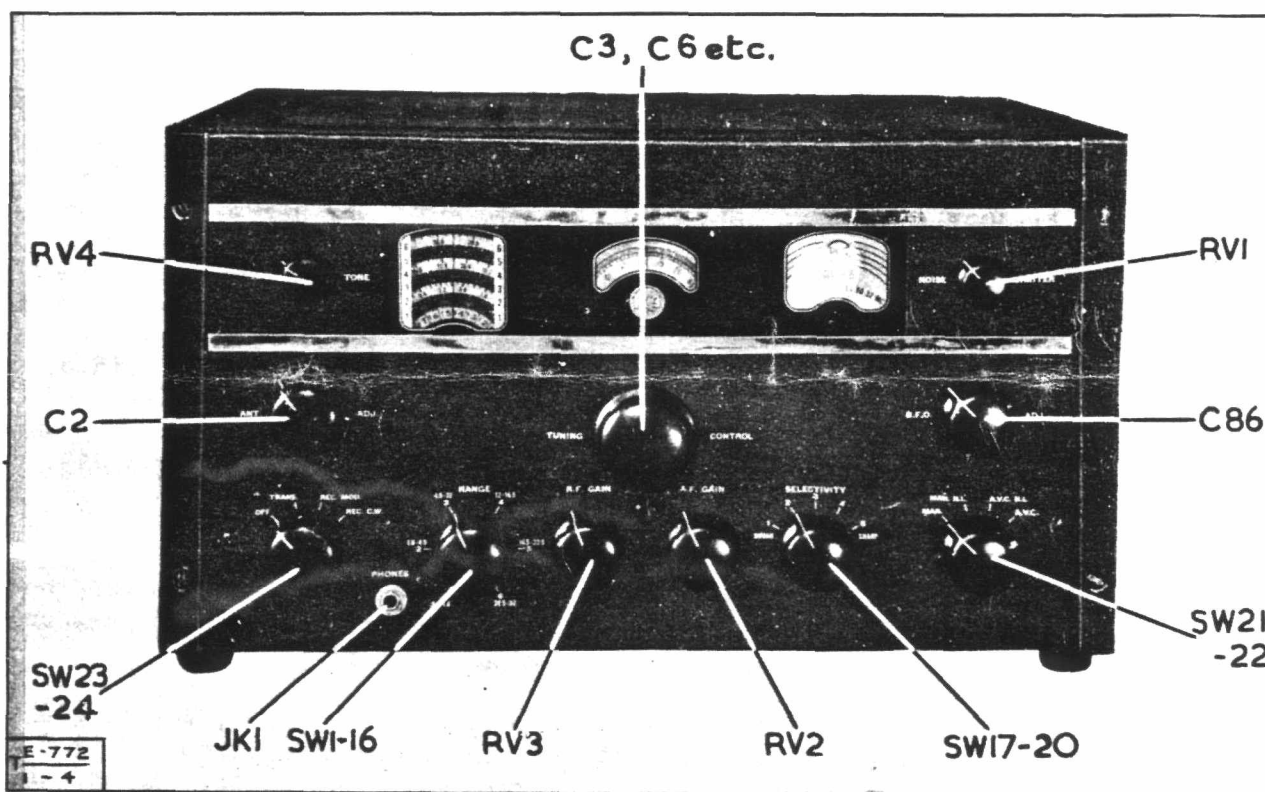

Fig 4 - AR88D - front panel view
16. The front panels and the controls of the AR88D and AR88LF are identical. Fig 4 shows the front panel of the AR88D and Table 1 lists the functions of the controls.